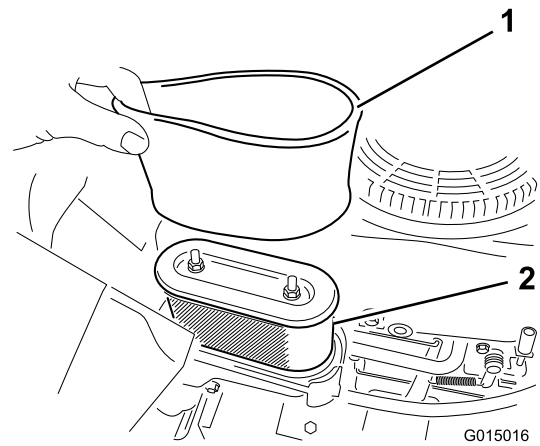

Figure 29
5. Carefully remove the foam and paper filter elements from the air-cleaner housing (Figure 29).
1. Install the foam filter onto the paper filter (Figure 29).